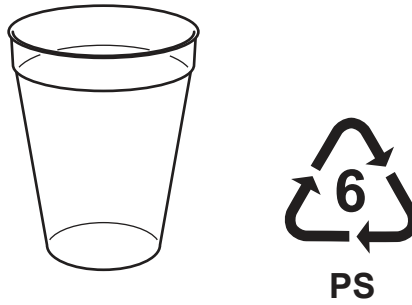

Fig. 9.1
- 9 Fig. 9.1 shows a plastic vending cup and the symbol for the plastic from which the cup is made.